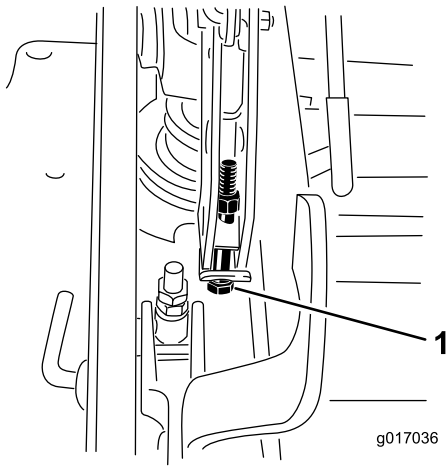

Figure 110
12. If the deck is too low, tighten the single-point-adjustment bolt by rotating it clockwise. If the deck is too high, loosen the single-point-adjustment bolt by rotating it counterclockwise (Figure 110).